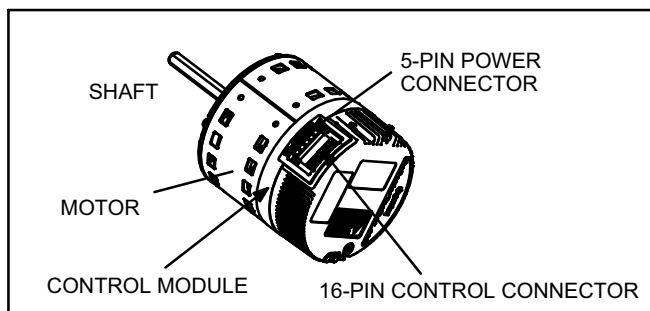

Figure 1. Module Connectors
- 4 - Unplug the 5-pin power cable and 16-pin control cable from the control module. See Figure 1 for location.